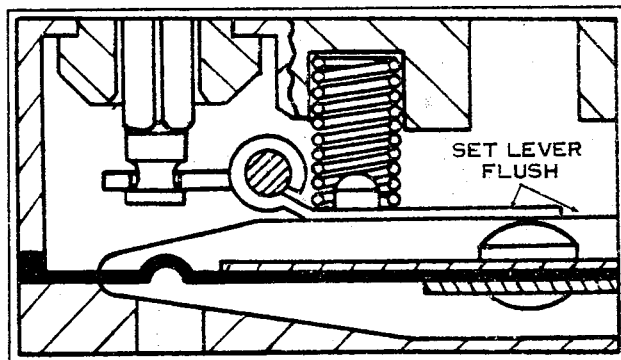

Figure 6
9. Inspect inlet needle lever for correct adjustment. It should be flush with surrounding floor of carburetor body. If not equipped with shackled needle, replace with kit No. 27588-66. Tighten seat to 45 in.-lbs. torque. See Figure 6.